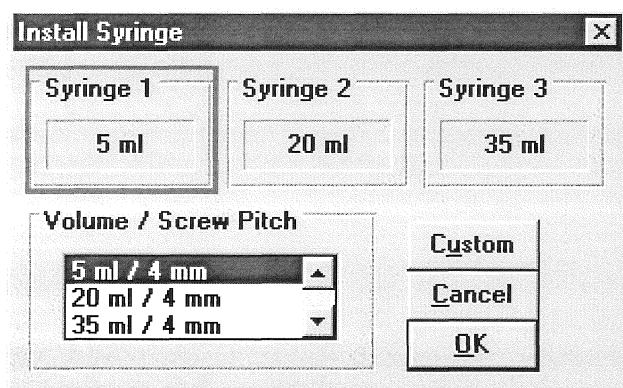

Figure 4
Choose **Config, Syringes** to load the Install Syringe window (figure 4). Click on the syringe frame (or use <key left> and <key right>) to select the one you want to modify. Then choose its volume with the mouse or with the arrow keys.
Choose **C**onfig, **L**imits to load the Limits window. This panel permits the user to change the limits of flow-rate that can be programmed in the AUTOMATIC MODE. Default values of the low and high flow-rate are automatically set when installing a new syringe model (see figure 4 page 5) or when clicking on "Default values". Other upper and lower flow rate may be entered by the user within values that can be accepted by the software. This panel allow also the setting of the Valve lead (hard-stop lead for Stopped-Flow, Collect valve lead for Quenched-Flow modules) and acceleration phases (see the acceleration phases paragraph for explanations on this subject).
**Note 2 :** In fact all motors have the same limit speed in term of  $\mu\text{s}$  by  $\mu$  steps ( high speed corresponds to  $57 \mu\text{s} / \mu$  step, low speed limit to  $6553 \mu\text{s} / \mu$  step). This gives different values in ml/s because of the differences in the syringes cross sections (see figure 4 page 5).